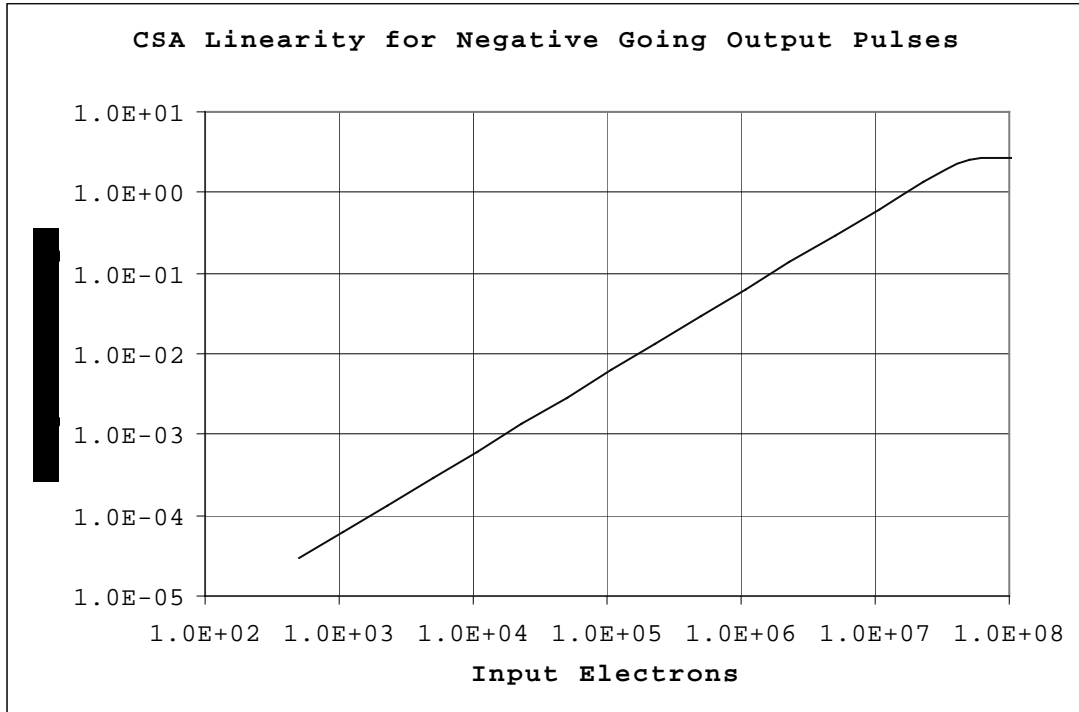

Figure 6: CSA Linearity for Negative Going Output Pulses
- Figure 6: CSA Linearity for Negative Going Output Pulses